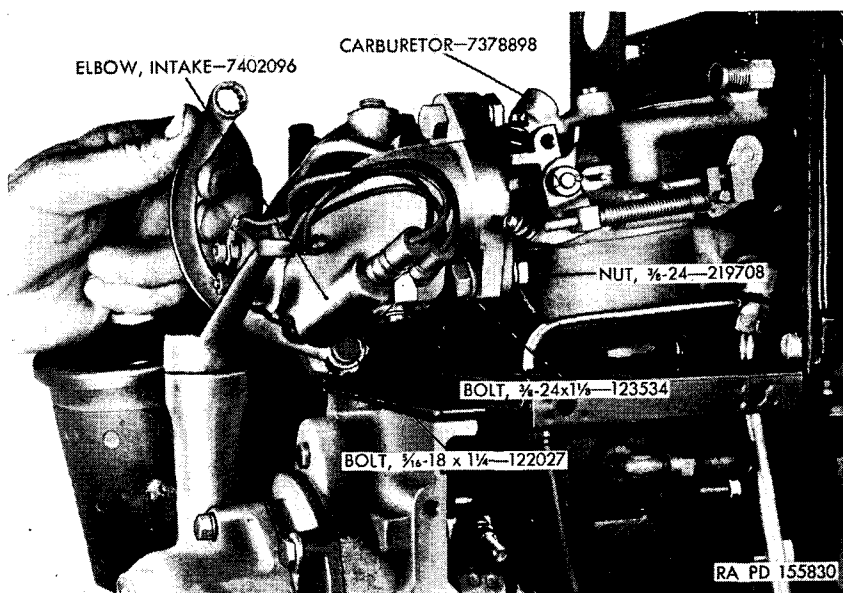

Figure 111. Tightening lower carburetor-intake-elbow bolt.
b. Lower carburetor and intake elbow into position (fig. 111) so that slot of intake-elbow flange aligns with lower $\frac{5}{16}$ -18 x $1\frac{1}{4}$ intake-elbow bolt. It may be necessary to loosen the magneto cover at top baffle and readjust to facilitate carburetor installation.